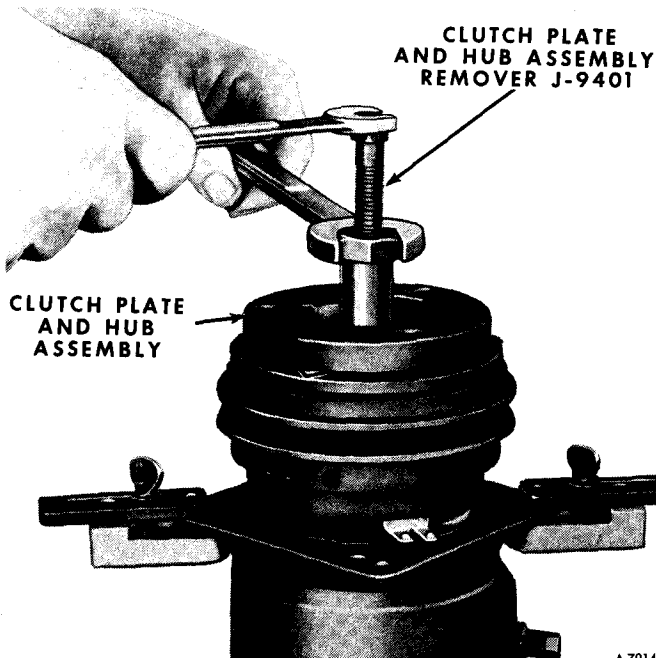

Figure 71—Removing Clutch Plate And Hub Assembly
3. Thread clutch plate and hub assembly remover J-9401 into hub. Hold body of remover with a wrench and tighten center screw to remove clutch plate and hub assembly (figure 71).